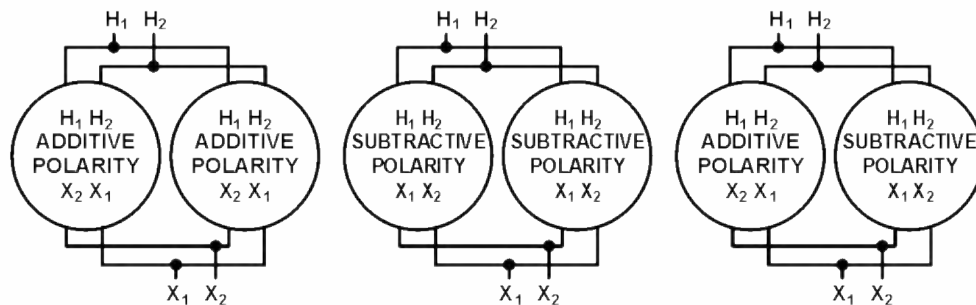

Figure 16 – Single-Phase Paralleling.
- Any combination of positive and negative polarity transformers can be used. However, in all cases, numerical notations **must be followed** on both primary and secondary connections. That is H₁ connected to H₁, H₂ connected to H₂, and X₁ connected to X₁, X₂ connected to X₂, X₃ connected to X₃. Note that each subscript number on a transformer must be connected to the same subscript number on the other transformer as shown in figure 16.
With positive and negative polarity transformers, the location of X₁ and X₂ connections on the tanks will be reversed. Care must be exercised to ensure that terminals are connected, as stated above. See figure 16.